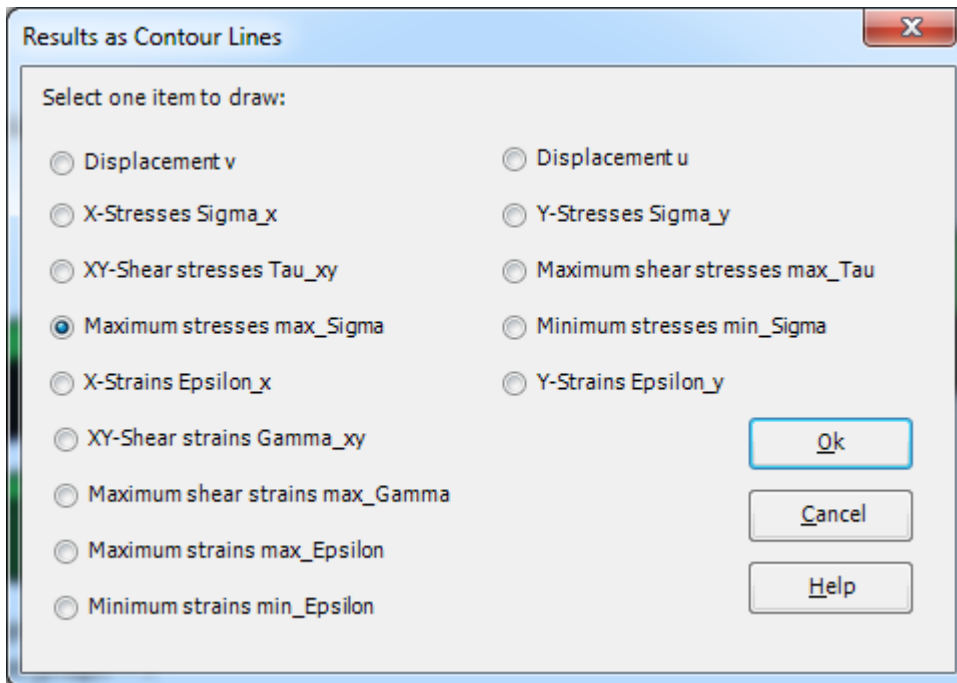

Figure 5.36 "Results as Contour Lines" option box
- Choose "Contour Lines" command from "Result" menu. The following option box in Figure 5.36 appears